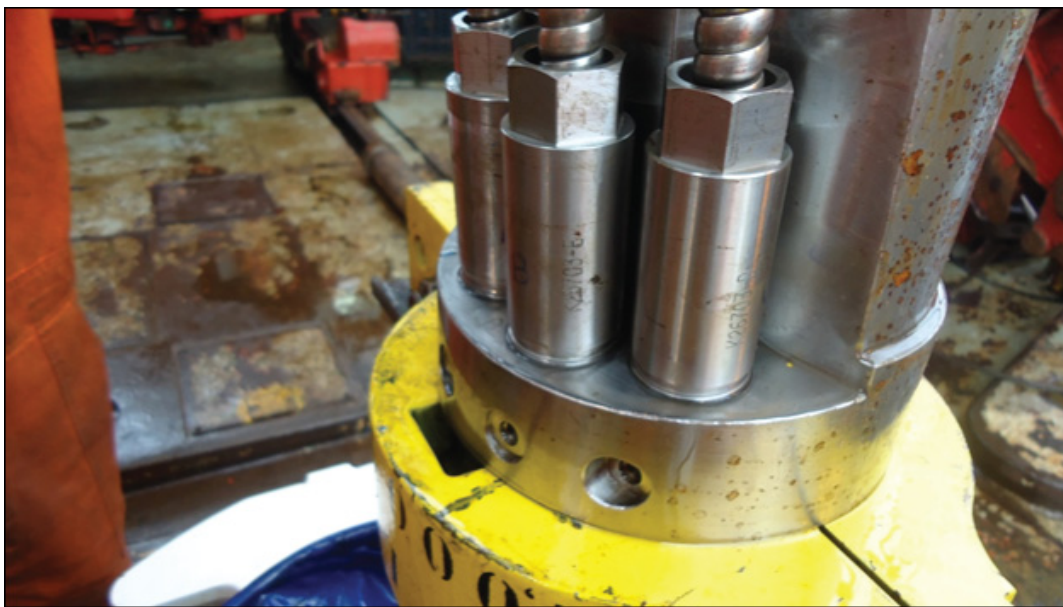

Figure C-12: Trident Pothead Connections
11. Insert each Trident pothead into the motor head and hand-tighten the pothead retaining nut (Figure C-12: Trident Pothead Connections).